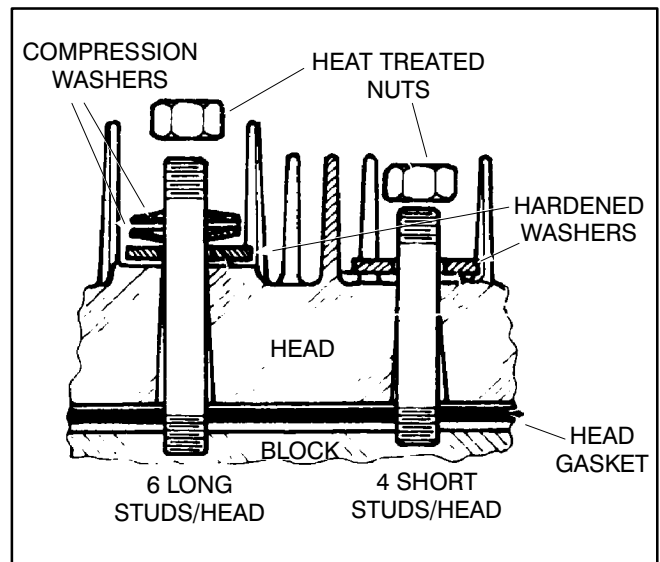

FIGURE 7-2. NHM CYLINDER HEAD WITH COMPRESSION WASHERS
6. Install a flat washer, two compression washers, and nut on each of the top six studs (Figure 7-2). When properly installed, only the outside edges of the compression washers will be in contact with each other. Install a flat washer and nut on each of the four bottom studs.